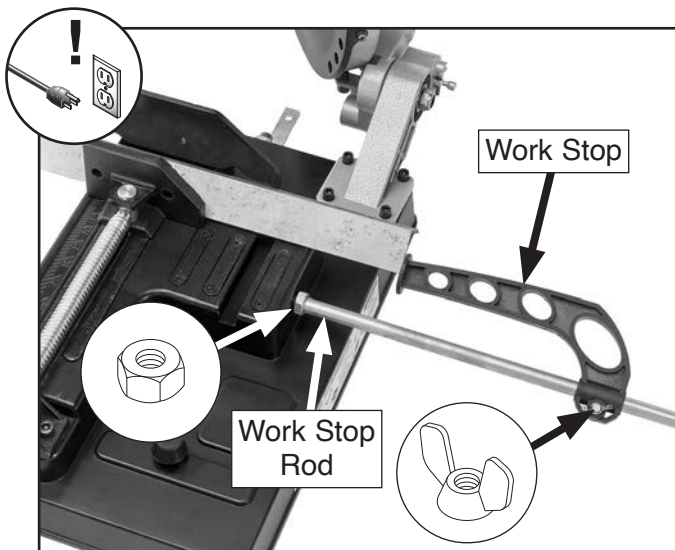

Figure 30. Example of work stop adjusted to workpiece.
4. Thread M12-1.75 hex nut onto work stop rod, thread rod into stand, then tighten hex nut against stand to secure (see **Figure 30**).
5. Slide work stop onto work stop rod, adjust work stop against workpiece, then tighten wing nut to secure (see **Figure 30**).